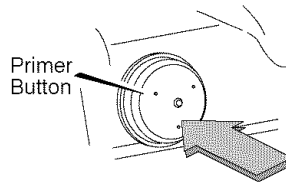

Figure 12
4. Push the **primer button** as specified below. Remove finger from primer button between pushes (see Figure 12).